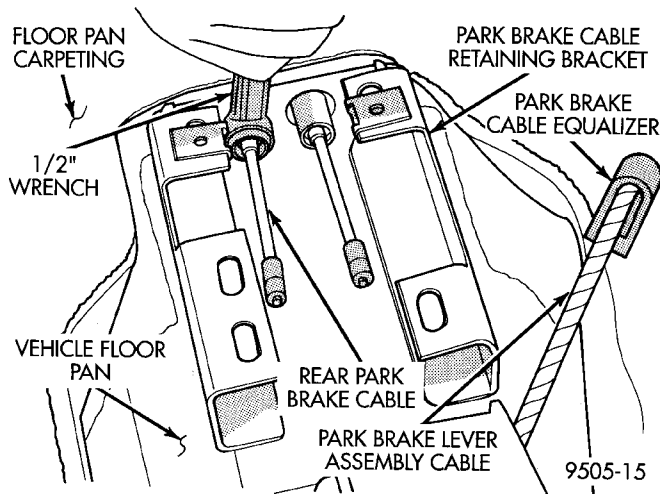

Fig. 140 Compressing Park Brake Cable Retaining Tabs
- (10) Fold rear carpeting forward to expose park brake cables.
- (11) Install the box end of a 1/2 in. wrench over the park brake cable retainer as indicated in (Fig. 140). This will compress tabs on park brake cable retainer, allowing cable to be removed from console bracket. From under carpet, grasp park brake cable housing and pull cable straight out of console bracket.